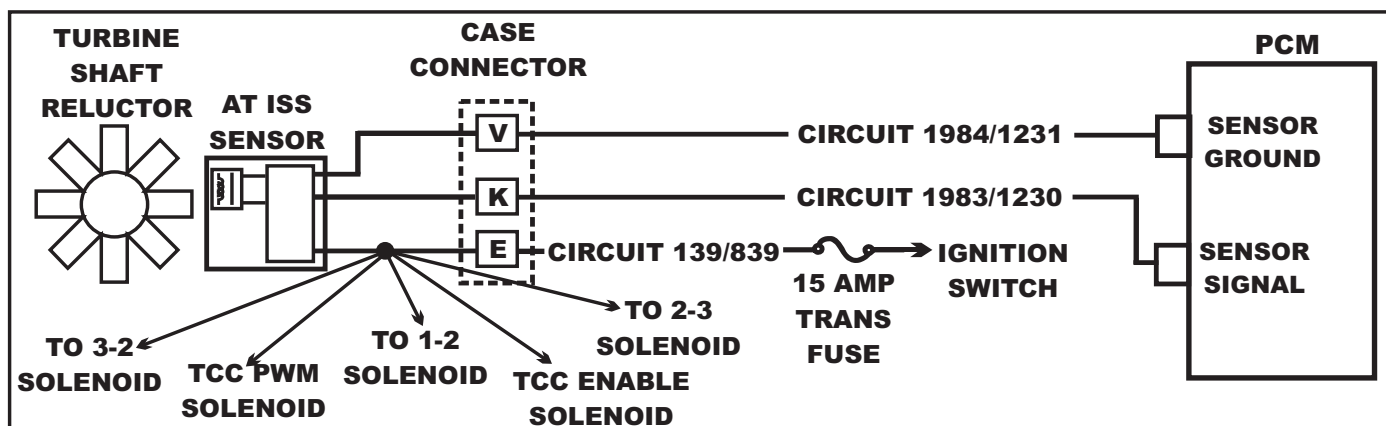

Figure 46
- If there is no input RPM displayed, or it is erratic, begin by verifying the battery voltage supply to case connector terminal “E” on Circuit 139/839 as seen in Figure 46. A definitive procedure to do this is to attach a battery fed jumper lead to terminal “E” and see if the code does not return, especially if solenoid codes are stored, (except line pressure control), and if the code stores during cranking of the engine.
- Check Circuit 1984/1231 for ground integrity using the voltage drop method, this is the AT ISS Sensor ground circuit, Refer to Figure 46.